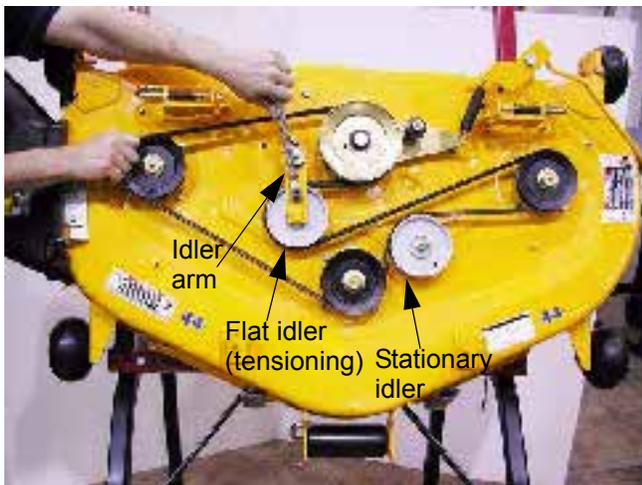

Figure 3.1
- 3.1. Insert a 3/8" breaker bar into the hole on idler arm assembly. Rotate the idler arm to the left while rolling belt off of the flat idler pulley. See Figure 3.1.